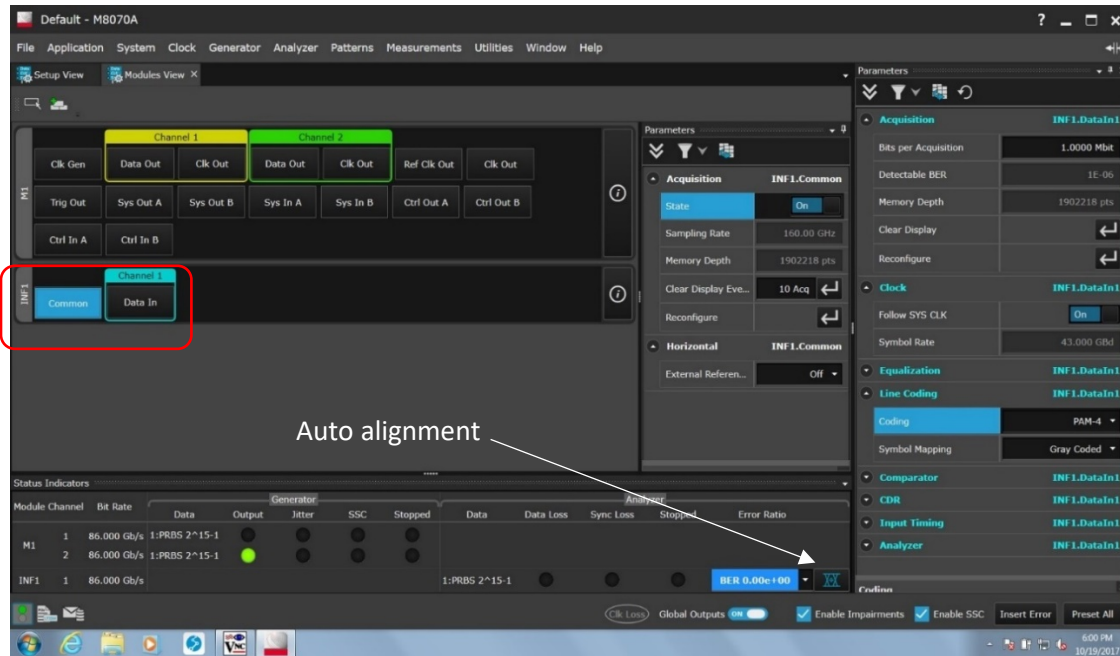

Figure 3. In Modules View *INF1* indicates the integrated Infiniium Z-series oscilloscope
Figure 3 shows the controls which are divided under two tabs: *Common and Data In*. The *Common* tab sets the general-purpose measurement parameters. As shown in figure 3 the *Common* tab includes sub-tabs such as *Acquisition and Horizontal*.
An important feature of the M8070B software is the auto-alignment function (refer to figure 3 beside the BER display). The real-time oscilloscope standalone GUI has auto set threshold and auto set equalizer tap controls, but these two are independent from the auto-alignment feature of the M8070B BERT software. In M8070B, auto-alignment searches for the widest eye-opening with its voltage threshold and sampling point (delay) being stepped over the eye. The auto-alignment feature of the M8070B software with real-time scope being integrated in it, optimizes the sampling threshold, delay and equalizer. During this process, the eye opening is automatically found by adjusting the delay and voltage threshold values for the lowest possible BER measurement.
- Perform the auto-alignment by clicking on auto alignment  as shown in figure 3.